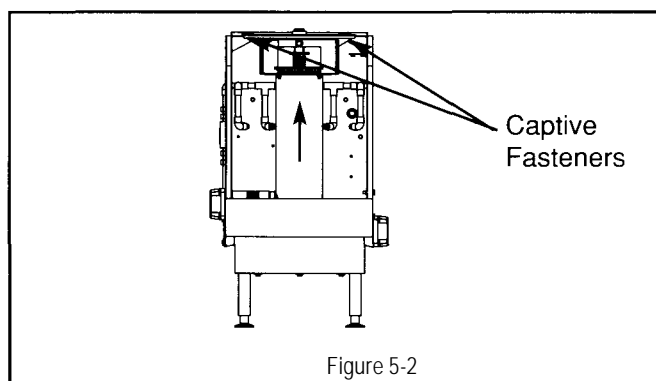

Figure 5-2
3. Remove auger-bearing bracket by turning the two captive fasteners counter clockwise and then pull bracket upward (see figure 5-2), replace if necessary.